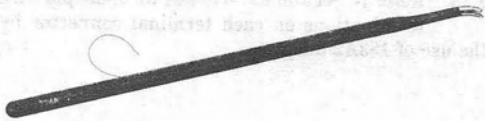

Fig. 17—724A Tool
4.01 The 724A tool (Fig. 17) is used to remove wires from the terminals of the 66-type connecting block.